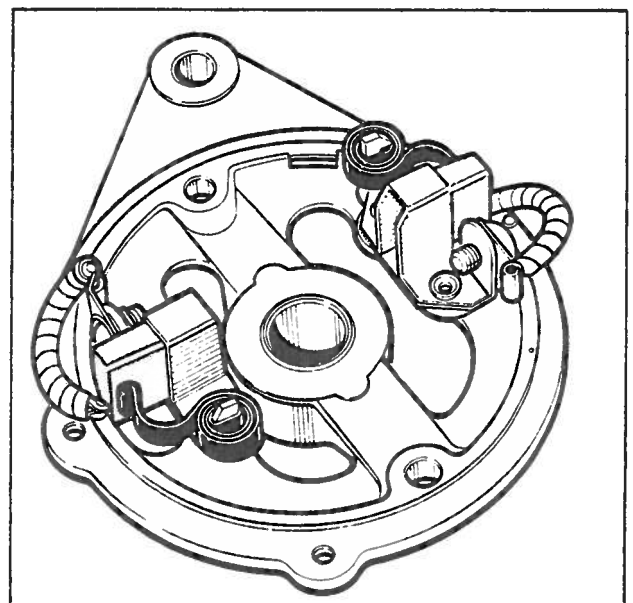

Fig. 2 Brushes held in the raised position
1. Lift the brushes up into the brush boxes and secure them in that position by positioning the springs at the sides of the brushes—see Fig. 2.